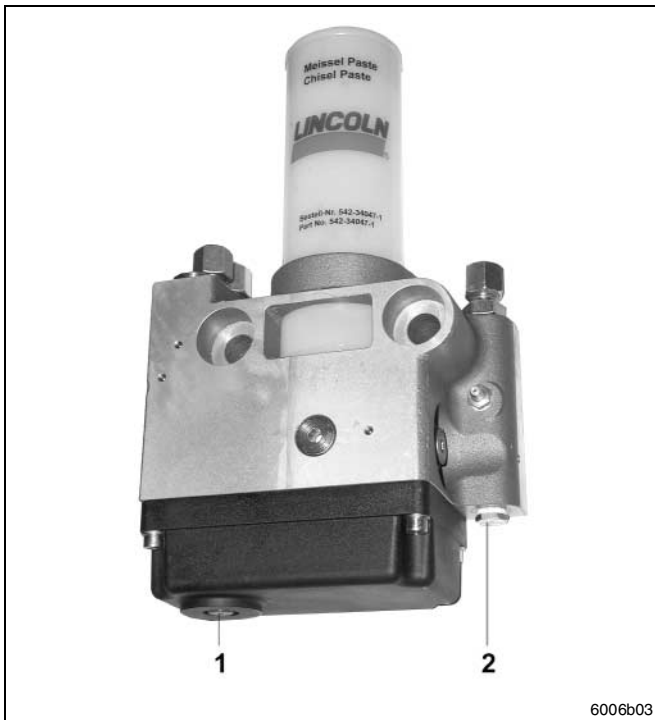

Fig. 4 Monitoring of Function
A driving pin attached to the stepper motor activates the eccentric shaft (Fig. 4, item 1) via a one-way clutch. The pump element is thereby actuated and delivers lubricant.
The eccentric shaft (Fig. 4, item 1), located at the bottom of the pump housing cover, serves for checking the function. If it turns clockwise, the pump element is operating correctly.
The lubrication pump must be protected with a pressure relief valve (Fig. 4, item 2).